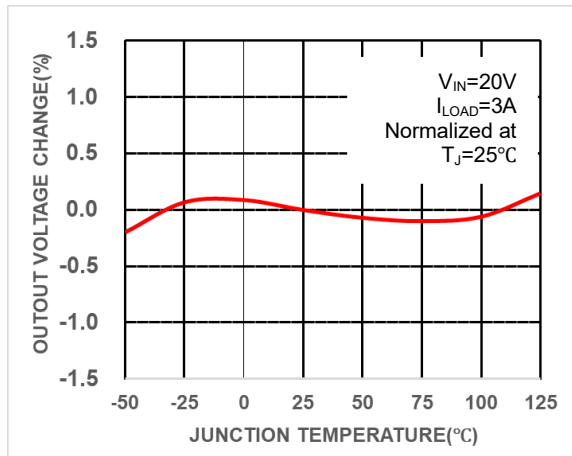

Fig.1 Normalized Output Voltage
5. External components such as the catch diode, inductor, input and output capacitors, and voltage programming resistors can affect switching regulator system performance. When the GS5256 is used as shown in the Figure 1 test circuit, system performance will be as shown in system parameters section of Electrical Characteristics.
(Selecting R_1 and R_2 , as shown in Figure 1)